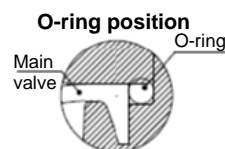

Fig.9
- Mount the O-ring into the groove in the body, see Fig.9.